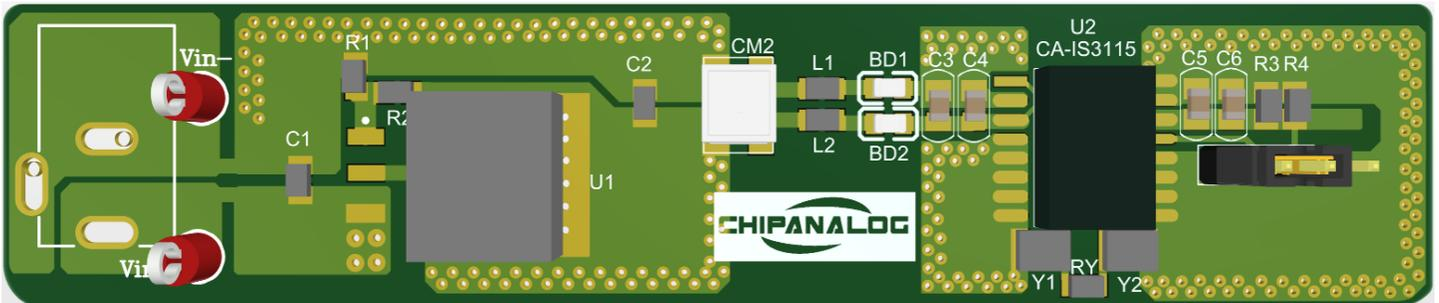

Figure 3-7. CA-IS3115AW reference design board (4-layer PCB)
- 2) Place decoupling capacitors as close as possible to the device pins, maximum distance is less than 2mm, see Figure 3-7, C3/C4 and C5/C6.